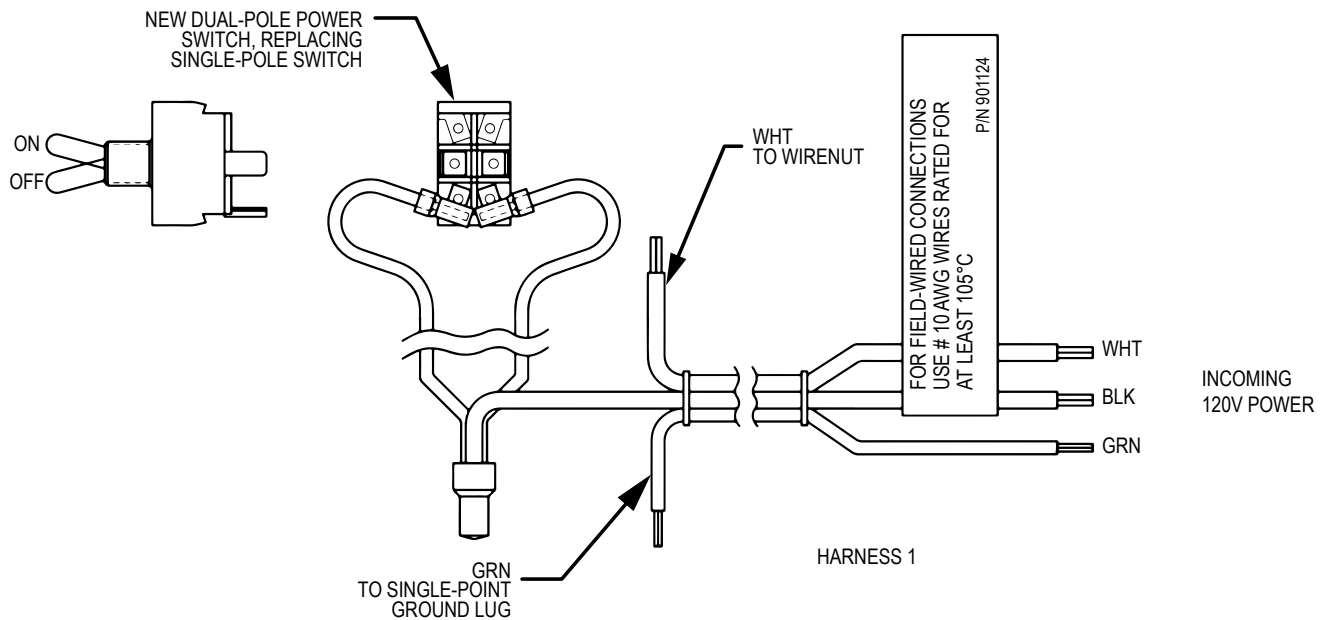

Figure 5. Harness 1, Models 0514-1826
7. Inside the J-box, replace the main power switch with the new 2-pole switch provided. Connect the wires of HARNESS 1, which connects incoming power to the COM side of the 2-pole switch, per **Figure 5**.
- Inside the J-box, replace the main power switch with the new 2-pole switch provided. HARNESS 1 connects incoming power to the COM side of the 2-pole switch. Use the HARNESS 1 illustration, **Figure 5** as a reference.